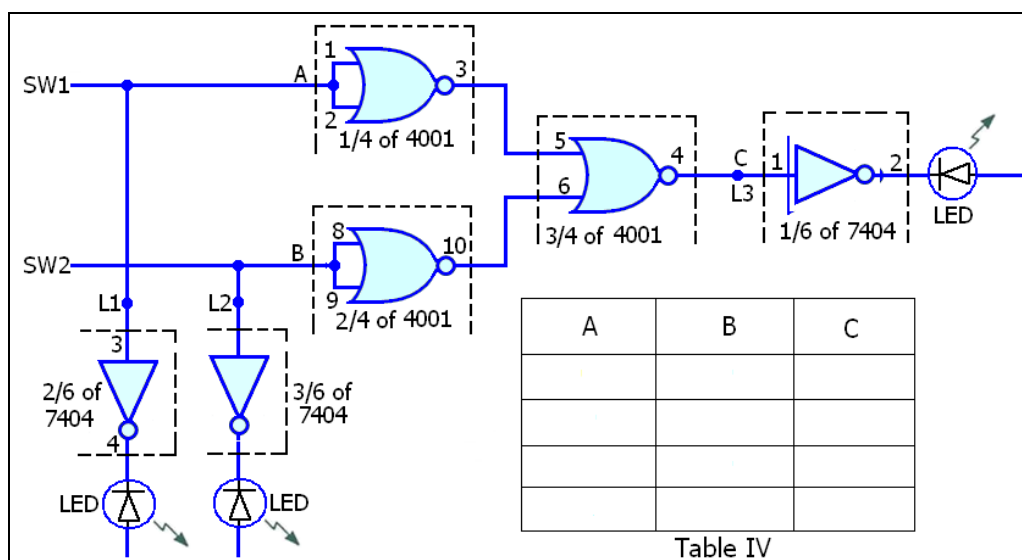

Fig. 2-5
15. Connect the circuit shown in Fig. 2-5. Monitor the inputs and output on LED indicators L1, L2, and L3. With SW1 (A) and SW2 (B), apply the inputs shown in Table VI. Record the output state (C) corresponding to each set of inputs. Use positive logic.
17. Study Fig. 2-5 and Table VI. What logic functions is being performed?
18. Modify your circuit in Fig. 2-5 by adding the fourth gate in the 4001 to the output, as shown in Fig. 2-6. Only the output change is shown.